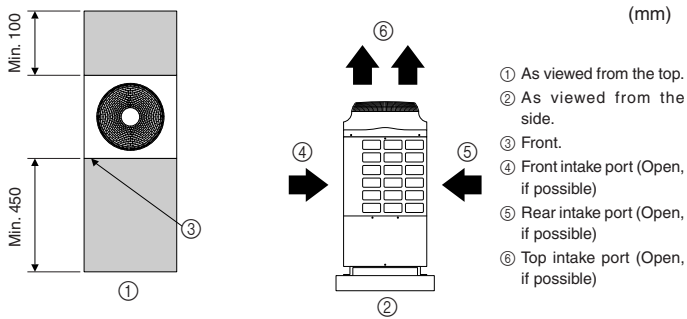

Fig. 2-3
(1) Basic information for determining required space (Fig. 2-3)